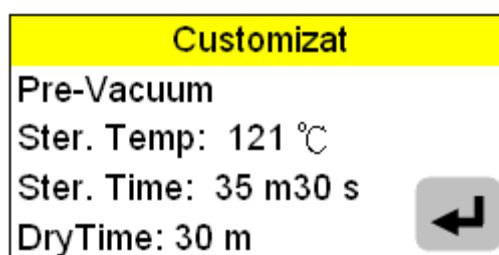

Figure 77
- I. Press  or  button until as shown in Figure 77.